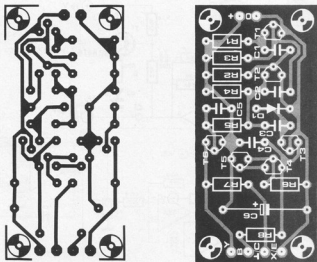

Figure 4. The printed circuit board of the curve tracer.
As mentioned above, diodes may also be tested. These are connected with the anode to R7 (L) and the cathode to the supply zero (X). The I/U characteristics of the diode in question will now appear on the screen. Figure 4 shows the printed circuit board. It is highly compact and can be built in less than no time.
Having set up the vocoder properly, the next question is what to do with it. Its most common application is as a 'voice processor'. A recent 'hit' in the charts is 'Funky Town' by Lipps Inc, in which the voices of two members of the group are transferred to the sound of a synthesizer. The introductory lyrics are difficult to understand (even for Americans!). One reason for this could be that the key chosen for the melody is rather high and, as our previous article on the vocoder stated, it is important that the frequency spectrum of the carrier signals overlap that of the speech input. If the carrier consists almost exclusively of high frequency components and the modulation signal (in this case the voice) is in a lower frequency range, only the higher harmonics of the voice will be superimposed on the carrier signal, as shown in figure 4. Furthermore, a woman's